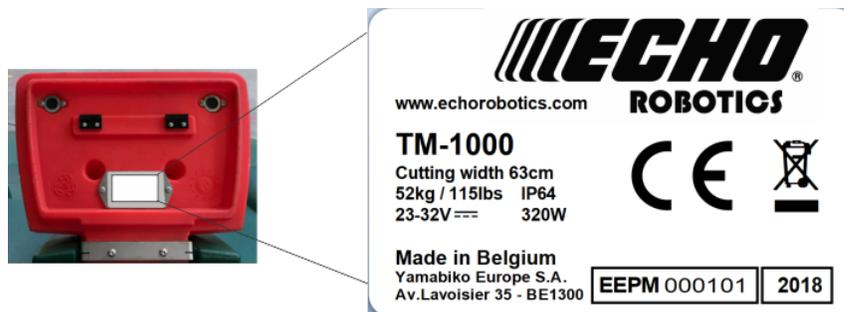

Figure 5: Identification label under the Stop lid.
**Mass in kilograms:** This can be seen on the identification label. See Figure 5: Identification label under the Stop lid. (page 13).